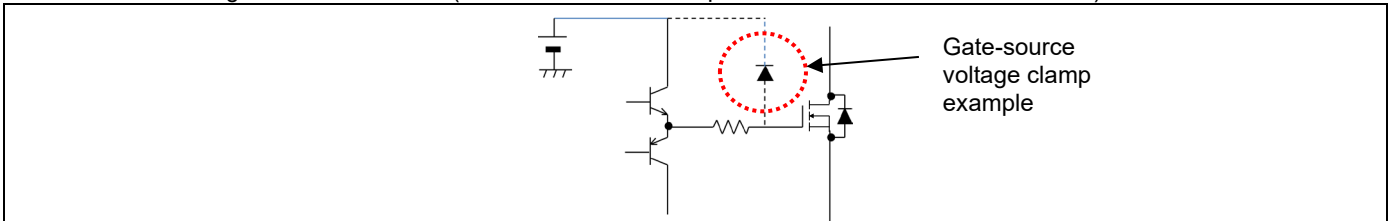

Figure 4-2. Gate-source voltage surge clamp example
- When the load is short-circuited, the gate-source voltage  $V_{GS}$  rises and may break down due to the larger current flowing. Therefore, it is recommended to suppress surges of the gate-source voltage. An example is shown below in Figure 4-2.